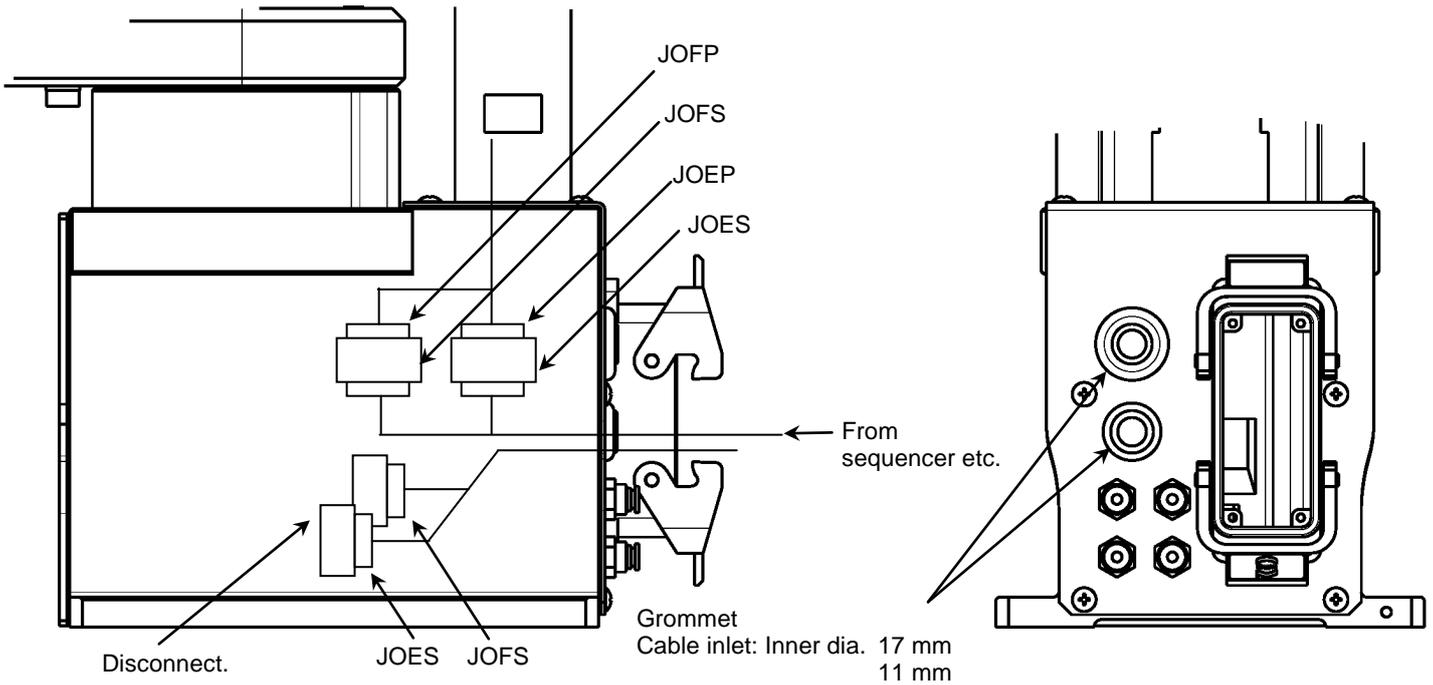

Fig. 5.2 Wiring to sequencer, etc.
Eight (8) input signals are provided for sensors, etc. and eight (8) control signals for solenoid valves, etc. A supply power signal of P24 V is also provided. They are connected to the controller. The wiring arrangement for these cables is shown in Fig. 5.2. The wires are connected to the connectors on the upper side of the arm 2. The user should provide the following connectors to connect the cables.
When controlling the robot from the sequencer, etc. installed separately, remove the motor cover from the base section, remove connectors JOES and JOFS on the rear side, then connect the cables running from the sequencer, etc. through the cable inlets provided on the motor cover. (See Fig. 5.2.) For ahead of the JOES and JOFS connectors, the user should prepare the following plug connectors and connect the cables. The current is 1 A or less per cable.